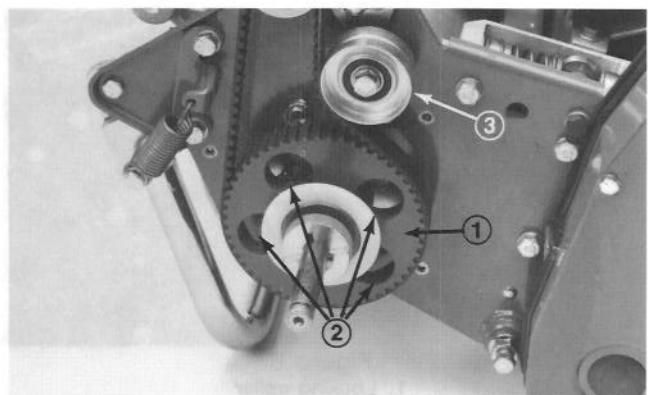

Figure 10
6. Rotate drive pulley until holes align with (4) roller bearing flange screws (Fig. 10).
7. Loosen (4) roller bearing screws and screw securing idler pulley. Raise or lower right side of roller assembly until the gap is reduced to less than .010". Retighten the roller bearing screws. Adjust belt tension and tighten idler pulley mounting screw (Fig. 10).